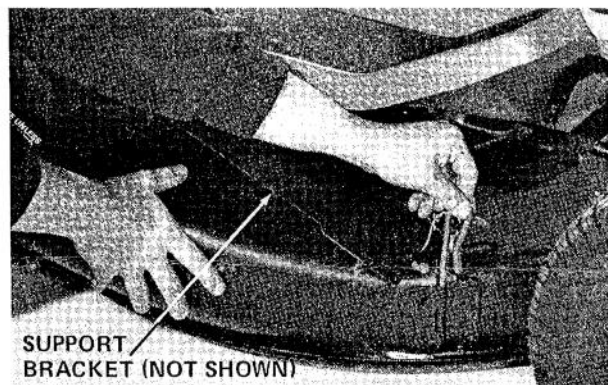

Figure 7
4. Slide chute assembly under deflector and into locking position with mating part of hinge lock. Insert locking pin through hinge (Fig. 7).